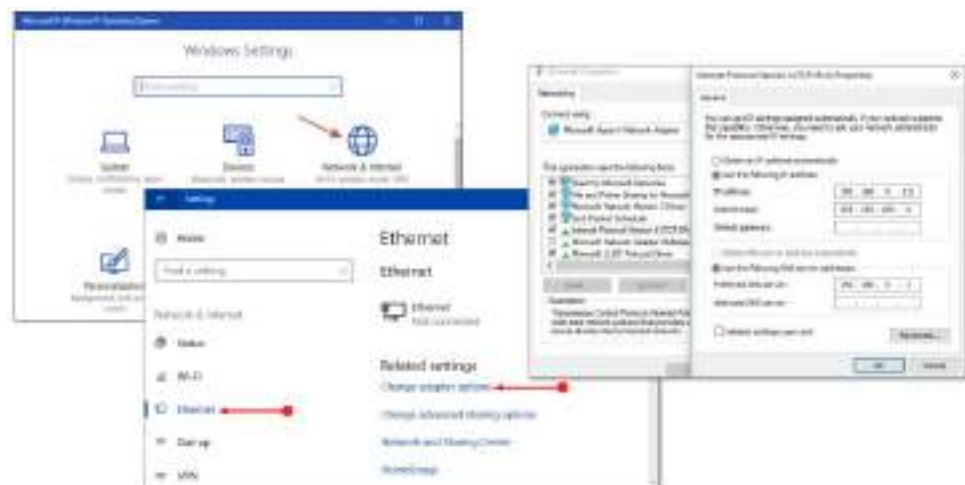

Figure 4
- Step 5.** Select Tap the entry named "**Internet Protocol Version 4 (TCP / IPv4)**" and press "**Properties**" key. (See Figure 4)
- Step 5.** Select Tap the entry named **"Internet Protocol Version 4 (TCP / IPv4)"** and press **"Properties"** key. (See Figure 4)